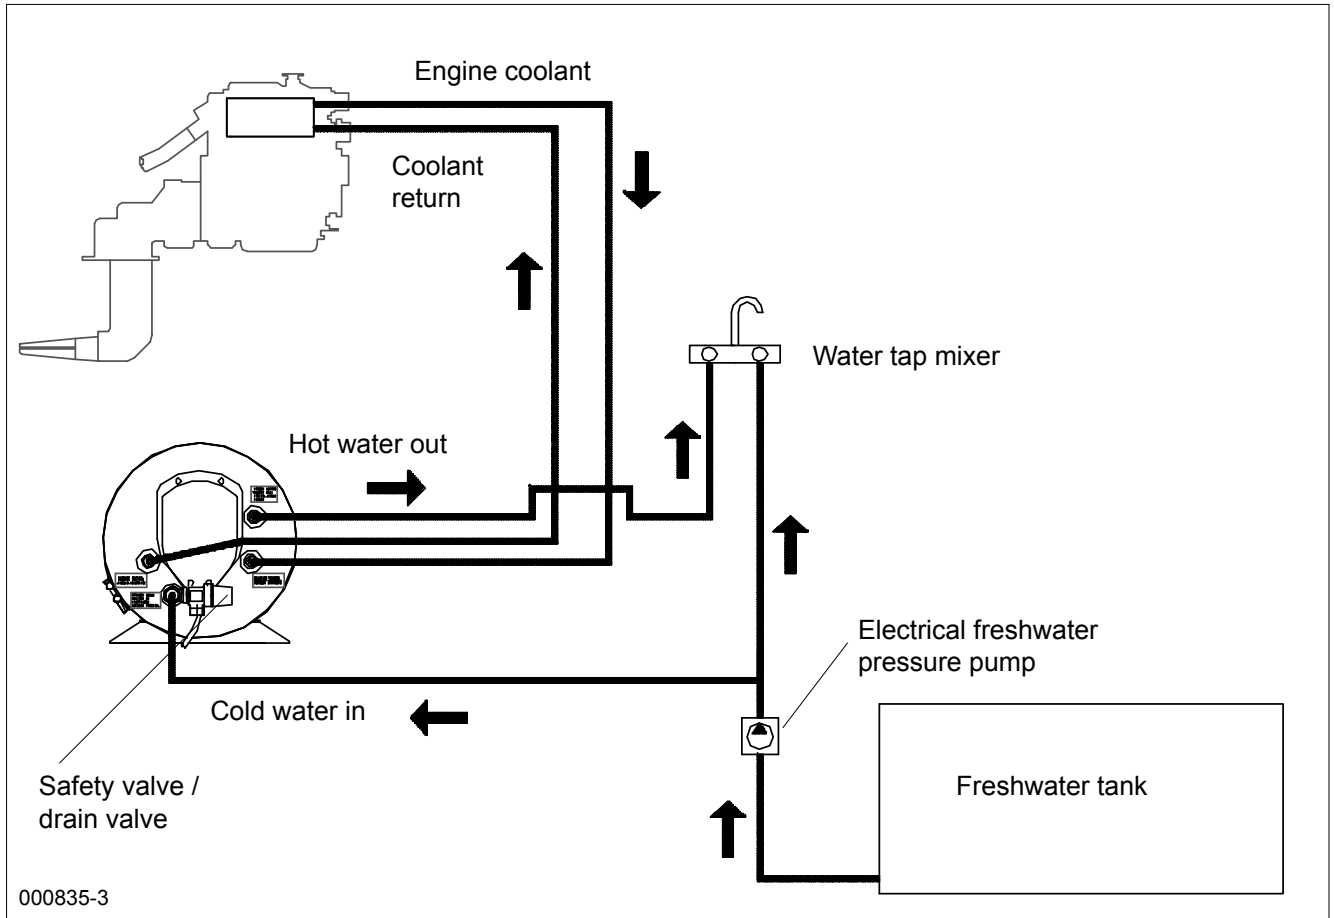

Fig. 1
The water heater can be mounted anywhere on the vessel as long as the connections to the engine heat exchanger are below the engine header tank (Fig. 1). It is best to keep the length of the heat exchanger hoses short to keep flow resistance and heat loss to a minimum. In many installations the tank heat exchanger is simply connected in series with the engine coolant circuit. In some installations it is connected in parallel with a flow restrictor/diverter.
4.3 Connections to engine (see connection diagram, fig. 1):
4.4 Freshwater connections (see connection diagram, fig 1):